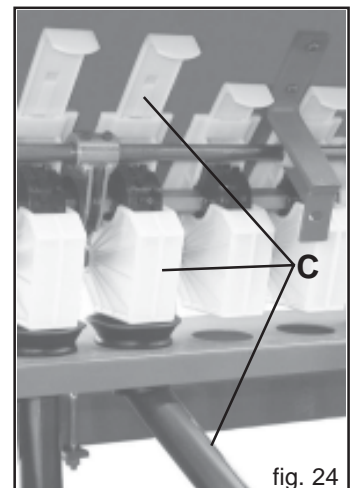

fig. 24
- release the screw (A) of the coulters' attachment;
- hook the springs (B) on the suitable attachments.
- make sure that only the blades of the distributors that have the telescoping tube (Fig. 24, C) are open; all the others must be closed.